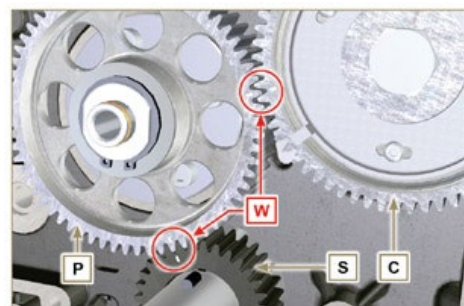

Fig 9.33
8. Position the gear **P** on the pin **H** observing all the marks **W** of the gears **C** and **S** (Fig. 9.33).
NOTE: During the detection phase of the TDC, check that cylinder N° 1 is in compression phase (align the notches **W** as in **Fig. 9.33**).